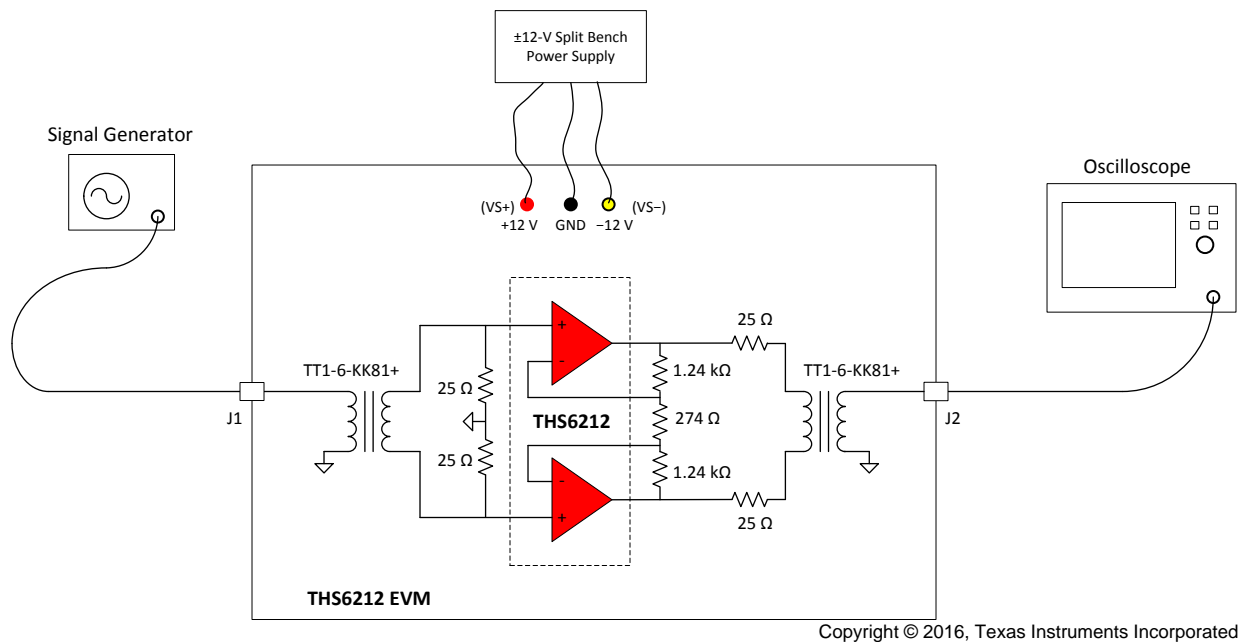

Figure 1. THS6212 EVM Default Configuration Setup Block Diagram
2.2 Power Supply Setup (Reference Figure 1)
2.3 *Input and Output Test Setup (Reference Figure 1)*